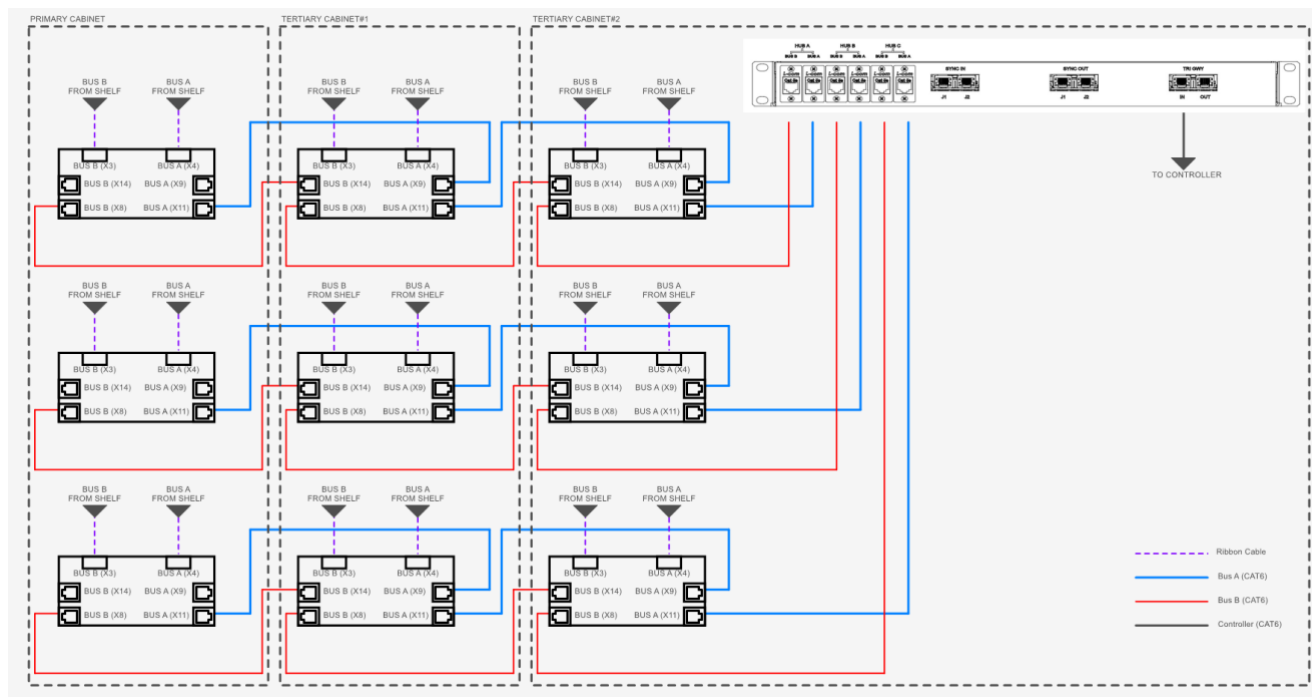

Figure 25- Comms Cabling for 3 ESCPAE20 System with 1 Power Extension Kit
- 1- Daisy chain Bus A and Bus B connectors of HUB boards in the Primary, Secondary and Tertiary cabinets together using Ethernet cable as shown in Figure 25- Comms Cabling for 3 ESCPAE20 System with 1 .